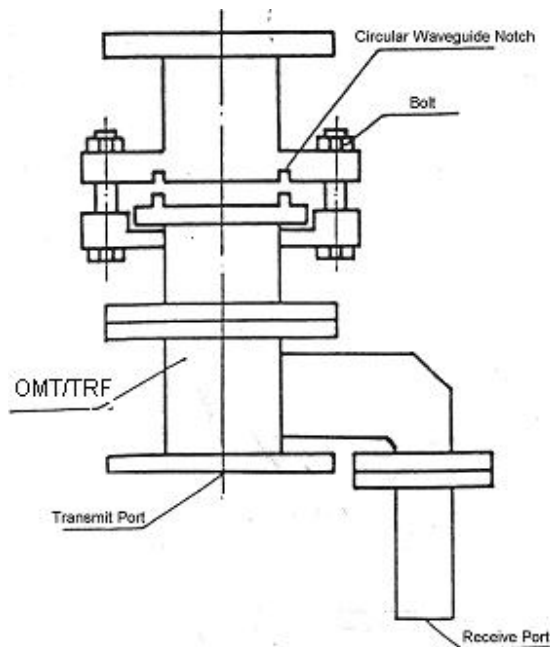

Figure 12. Adjusting Polarization
2. Connect and Secure the two flanges together by inserting the bolts and fasten the nuts, as shown in Figure 12.